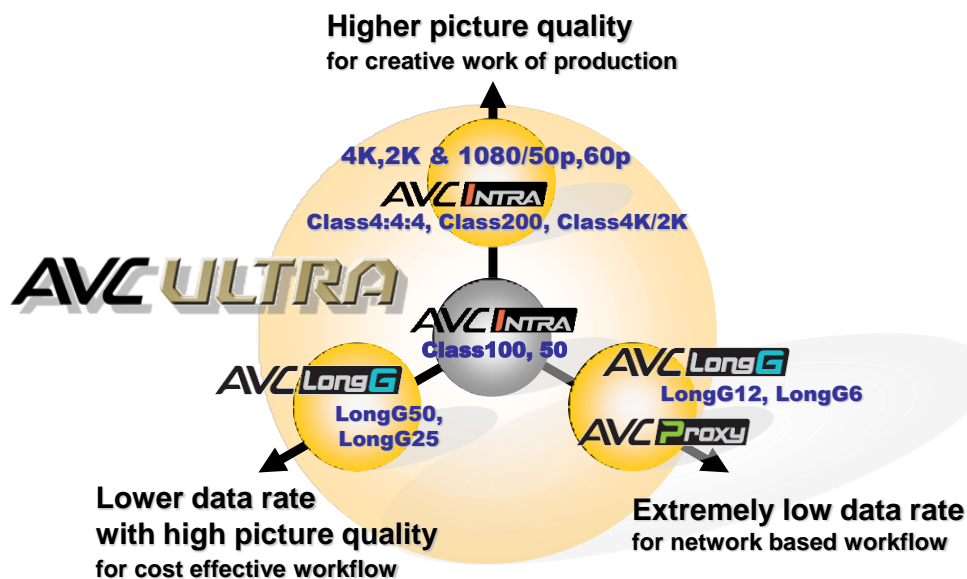

Figure 1 Overview of AVC-ULTRA
- (1) Significantly reducing operational costs in the workflow of image production
- (2) Network-based image acquisition and production by removing constraints on time and location
- (3) Image production environment inspiring the production of creative image content
Figure 1 illustrates the concept of AVC-ULTRA. (1) Operational cost reduction is achieved by AVC-LongG which provides high picture quality with lower bit rate compared to MPEG-2 Long GOP. (2) Network-based workflow is achieved by low bit rate AVC-LongG and AVC-Proxy suitable for data transfer over IP network. (3) AVC-Intra Class 200 and Class 4:4:4 have been developed to meet the requirements for producing creative image content which needs much higher image representation and robustness against manipulation and effects. AVC-Intra has also been enhanced to cover higher frame rates and to specify Class 4K supporting Ultra high definition (4K) image formats.